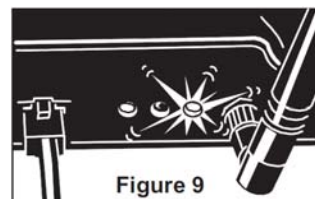

Figure 9
2. Next, the BaseStation is going to test the internet connection. The connection LED will flicker and then flash steadily (Figure 9).